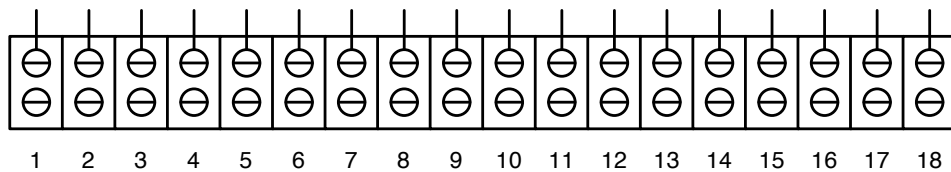

Figure 6.8: Terminal Blocks
12. Use your ohmmeter to determine the connections between the switches, potentiometer, and the lamp on the Bud Box and the 18 terminals of the upper terminal strip, and label the diagram in Figure 6.8. For each pair of terminals on the toggle switches, indicate which position (up or down) closes the contacts.